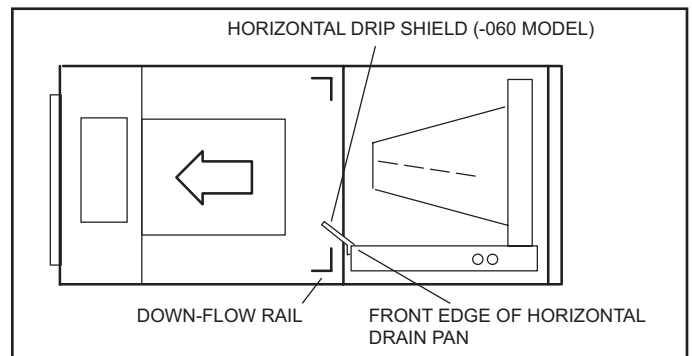

FIGURE 5. Left-Hand Discharge Configuration
- 8 - Install the horizontal shield (-060 model) on the front edge of the horizontal drain pan as illustrated in figure 5.